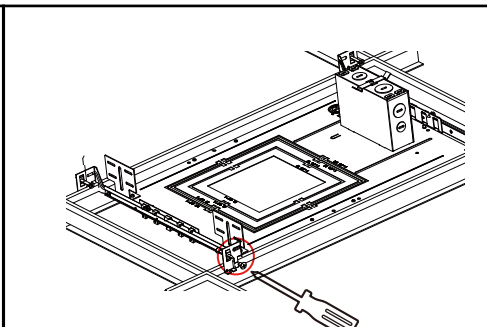

Figure 20
3. If required by code, connect the bar hangers to the T-grid with self-tapping sheet metal screws. (Fig.20)